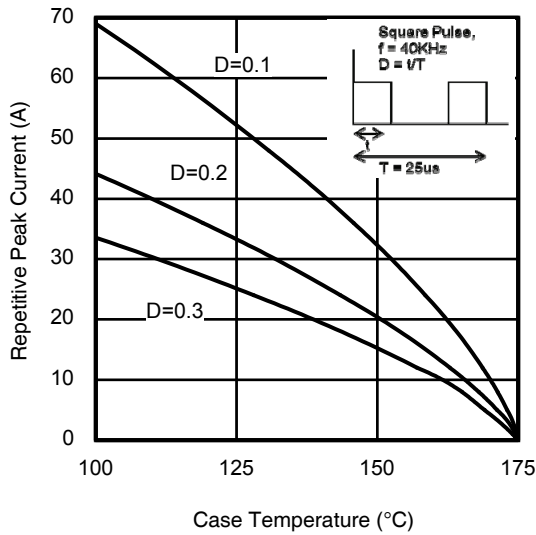

Fig. 26 - Typical Gate Charge vs. V_{GE}
- ① V_{CC} = 80% (V_{CES}), V_{GE} = 20V, L = 210μH, R_G = 10Ω.
- ② Refer to AN-1086 for guidelines for measuring V_{(BR)CES} safely.
- ③ Pulse width limited by max. junction temperature.
- ④ R_θ is measured at T_J of approximately 90°C.
- ⑤ Values influenced by parasitic L and C in measurement.
- ⑥ f_{sw} = 40KHz, refer to figure 26.